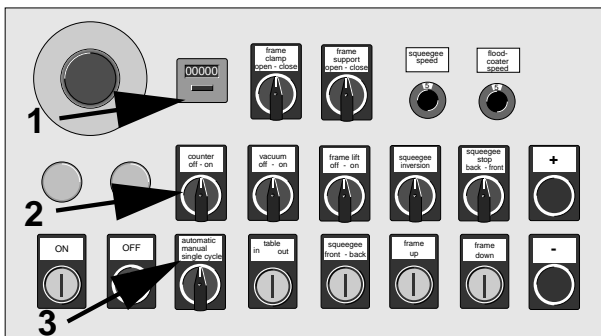

Figure 6-3. Control panel
- \* Set the sheet counter to 0 (1, Figure 6-3).